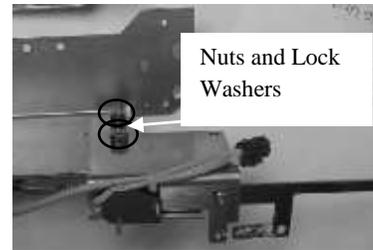

Figure 13: LA-Gold microswitch assembly secured to the mounting plate and support bracket
2. **For LA-Gold breakers**, secure microswitch assembly to mounting plate and support bracket assembly with the lock washers and nuts provided as shown in Figure 13.